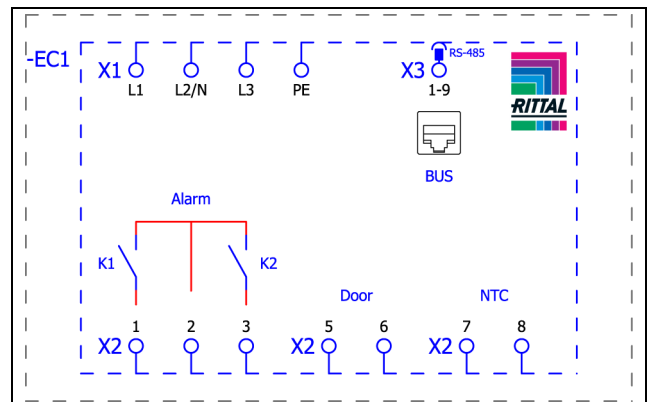
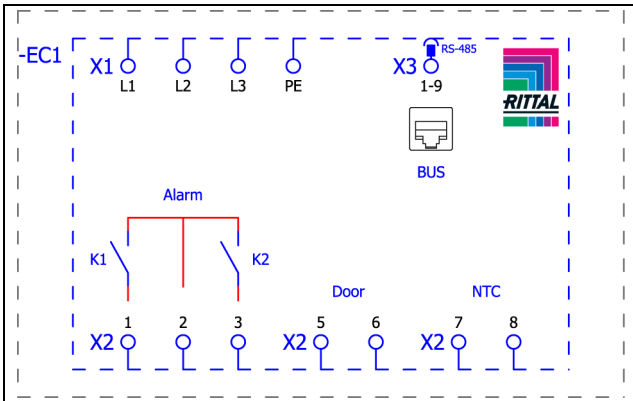

Fig. 37: Circuit diagram SK 3186930 and SK 3187930
Fig. 38: Circuit diagram SK 3188940 and SK 3189940
- Remove the mains connector from the dispatch bag and connect to the mains as shown on the connection diagram (fig. 37 or fig. 38).